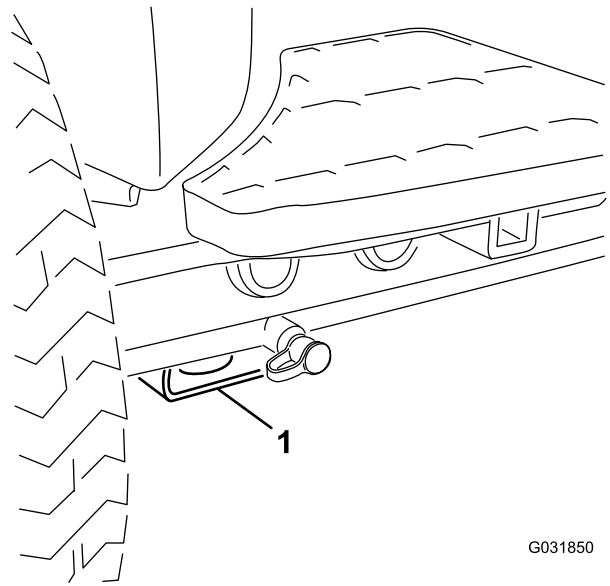

Figure 38
- Front—rectangular pad, under the axle tube, inside each front tire (Figure 38)